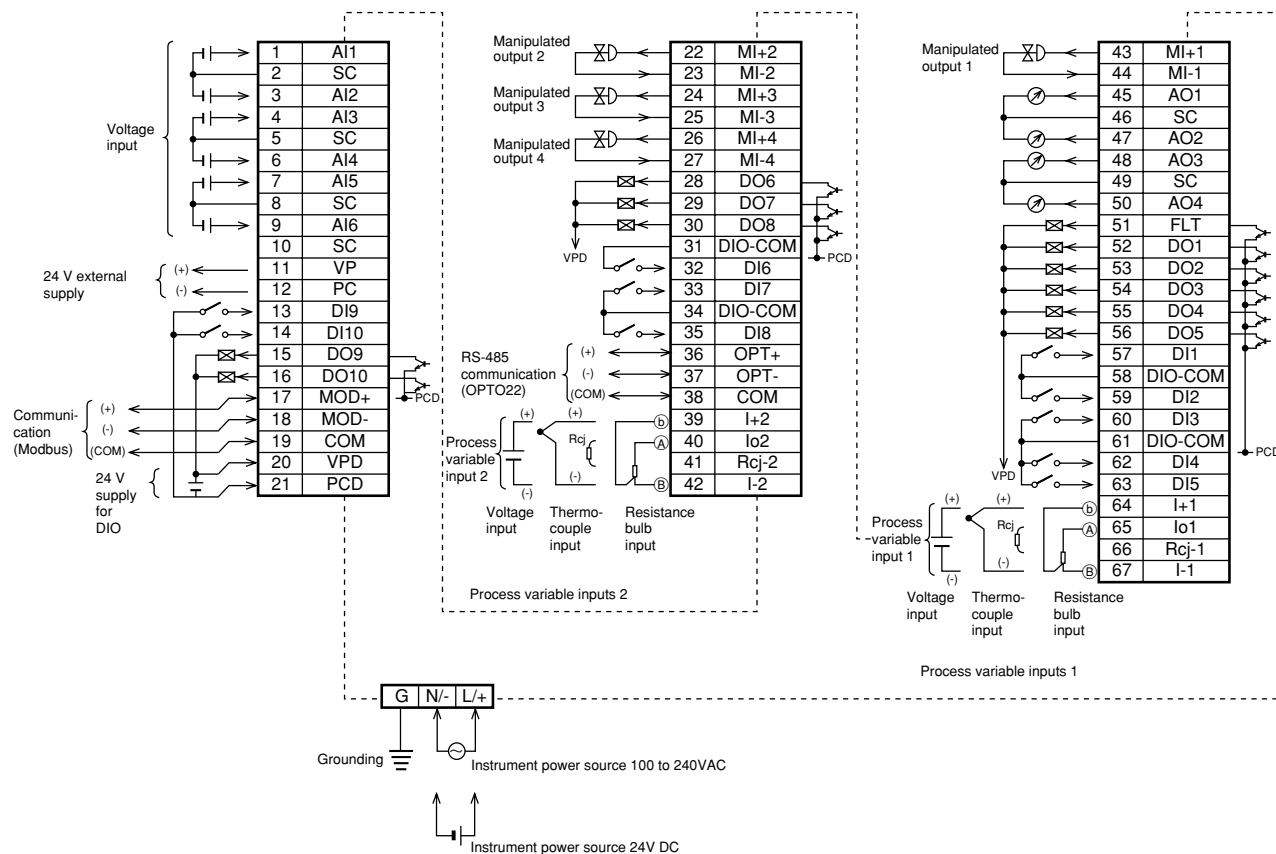

Fig. 12-1 Terminal arrangement
- For terminal arrangement, see Fig. 12-1.